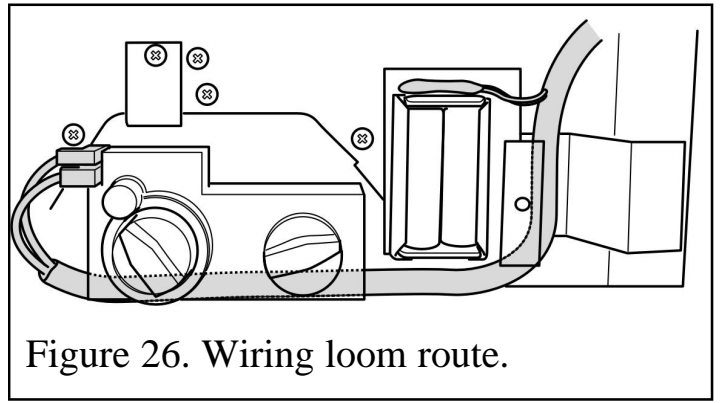

Figure 26. Wiring loom route.
- When replacing, make sure that the wiring loom runs above and to the right of the battery box and behind the control valve (See figure 26). The motor lead connectors are
- When replacing, make sure that the wiring loom runs above and to the right of the battery box and behind the control valve (See figure 26). The motor lead connectors are two different sizes. They will only fit to the correct motor terminals.
- the battery box and behind the control valve (See figure 26). The motor lead connectors are two different sizes. They will only fit to the correct motor terminals.